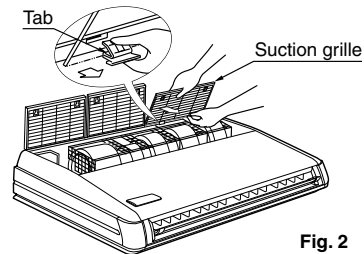

Fig. 2
- With the suction grille open, remove the suction grille forward, holding on to the rear tabs (x2) on the suction grille. (Refer to Fig. 2)